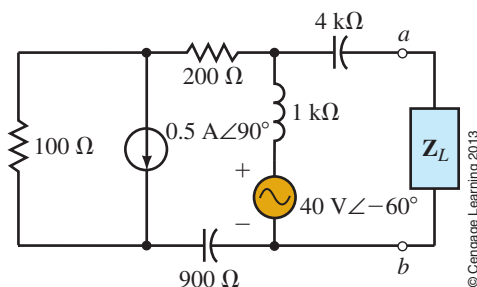

FIGURE 20–84
43. Repeat Problem 41 for the circuit of Figure 20–85.